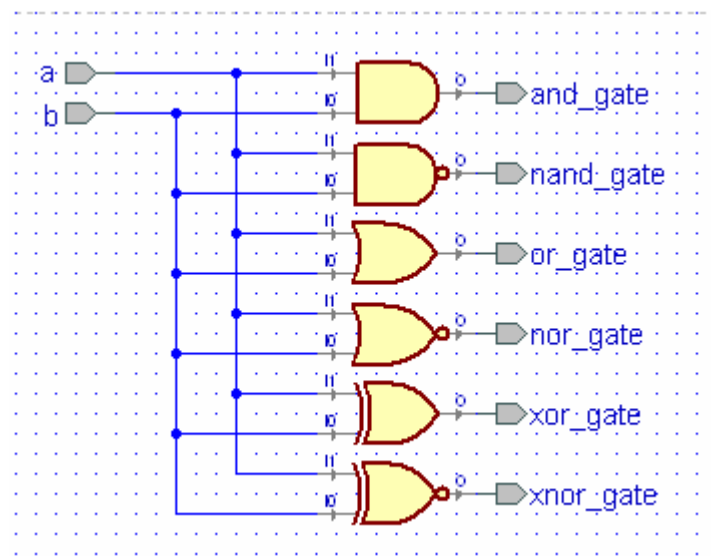
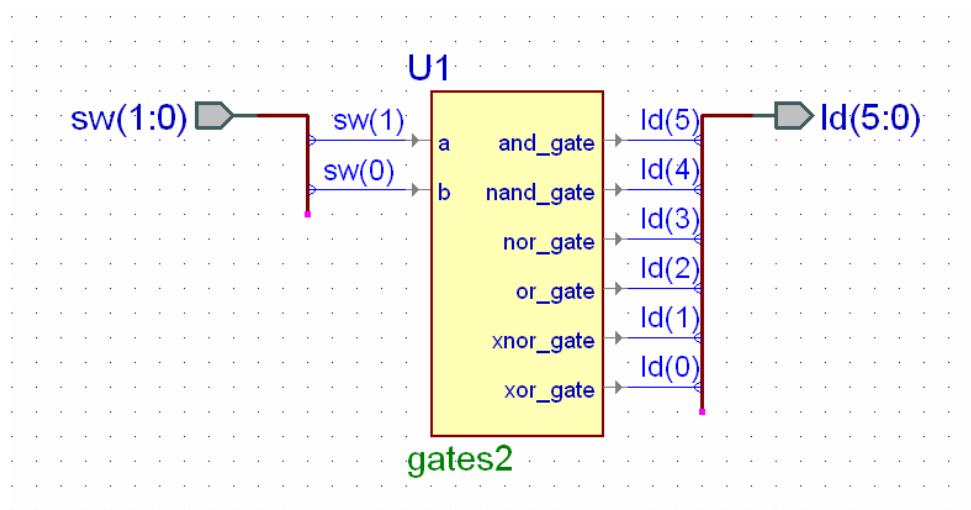

Figure 2.1 Circuit diagram for Example 2
Figure 2.3 Top-level design for Example 2
Part 4 of the tutorial in Appendix A shows how to connect two inputs *a* and *b* to the inputs of six different gates using the block diagram editor (BDE) in Active-HDL. The result is shown in Fig. 2.1. Note that we have named the outputs of the gates the name of the gate including an underscore. Identifier names in VHDL can contain any letter, digit, underscore `_`, or `$`. The identifier can not begin with a digit or be a VHDL keyword. VHDL is *not* case sensitive.
The logic diagram in Fig. 2.1 contains six different gates. This logic circuit is described by the VHDL program shown in Listing 2.1. The first line in Listing 2.1 is a comment. Comments in VHDL follow the double dash --. All VHDL programs begin with an *entity* statement containing the name of the entity (*gates2* in this case) followed by a list of all input and output signals together with their direction and type. We will generally use lower case names for signals. The direction of the input and output signals is given by the VHDL statements *in*, *out*, or *inout* (for a bi-directional signal).
To describe the output of each gate in Fig. 2.1 we simply write the logic equation for that gate preceded by the assignment operator, *<=*. These are *concurrent* assignment statements which means that the statements can be written in any order.
Part 5 of the tutorial in Appendix A shows how to create a top-level design for the *gates2* circuit. In order to use the constraint files *basys2.ucf* or *nexys2.ucf* described in Example 1 we must name the switch inputs  $sw(i)$  and the LED outputs  $ld(i)$ . This top-level design, as created in Part 5 of Appendix A is shown in Fig. 2.3. The module *gates2* in Fig. 2.3 contains the logic circuit shown in Fig. 2.1. Note that each wire connected to a bus must be labeled to identify its connection to the bus lines.
Compiling the top-level design shown in Fig. 2.3 will generate the VHDL program shown in Listing 2.2. The inputs are now the two rightmost slide switches,  $sw(1:0)$ , and the outputs are the six right-most LEDs  $ld(5:0)$ . To associate these inputs and outputs with the inputs  $a$  and  $b$  and the six output in the  $gates2$  component in Fig. 2.1 and Listing 2.1 we use the VHDL *port map statement*
This VHDL *port map* statement begins with an arbitrary name for the component in the top-level design. Here we call it U1. This is followed by the name of the component being instantiated, in this case *gates2* from Listing 2.1. Then using the *port map* statement enclosed in parentheses are the inputs and outputs from Listing 2.1 associated with corresponding inputs and outputs in the top-level design in Fig. 2.3. Note that we connect the input *a* in Listing 2.1 to the input *sw*(1) on the FPGA board. The input *b* in Listing 2.1 is connected to *sw*(0) and the outputs *and\_gate*, *nand\_gate*, *or\_gate*, *nor\_gate*, *xor\_gate*, and *xnor\_gate* are connected to the corresponding LED outputs *ld*(5:0). These associations can be made in this way in any order. The *port map* statement in Listing 2.2 generated from the top-level block diagram are associated in alphabetical order.